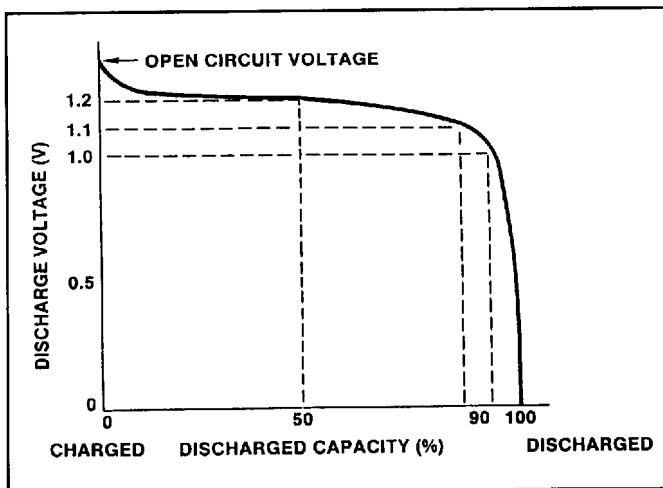

Figure 9 - Typical Cell Discharge Curve
1. Discharge the battery pack at a normal discharge rate until the output voltage is approximately 1 Volt per cell. This equals 6 Volts output for the battery packs. Refer to Figure 9. Note the flatness of the discharge curve from 0% - 90%. Experience shows discharging below the "knee" is not necessary.